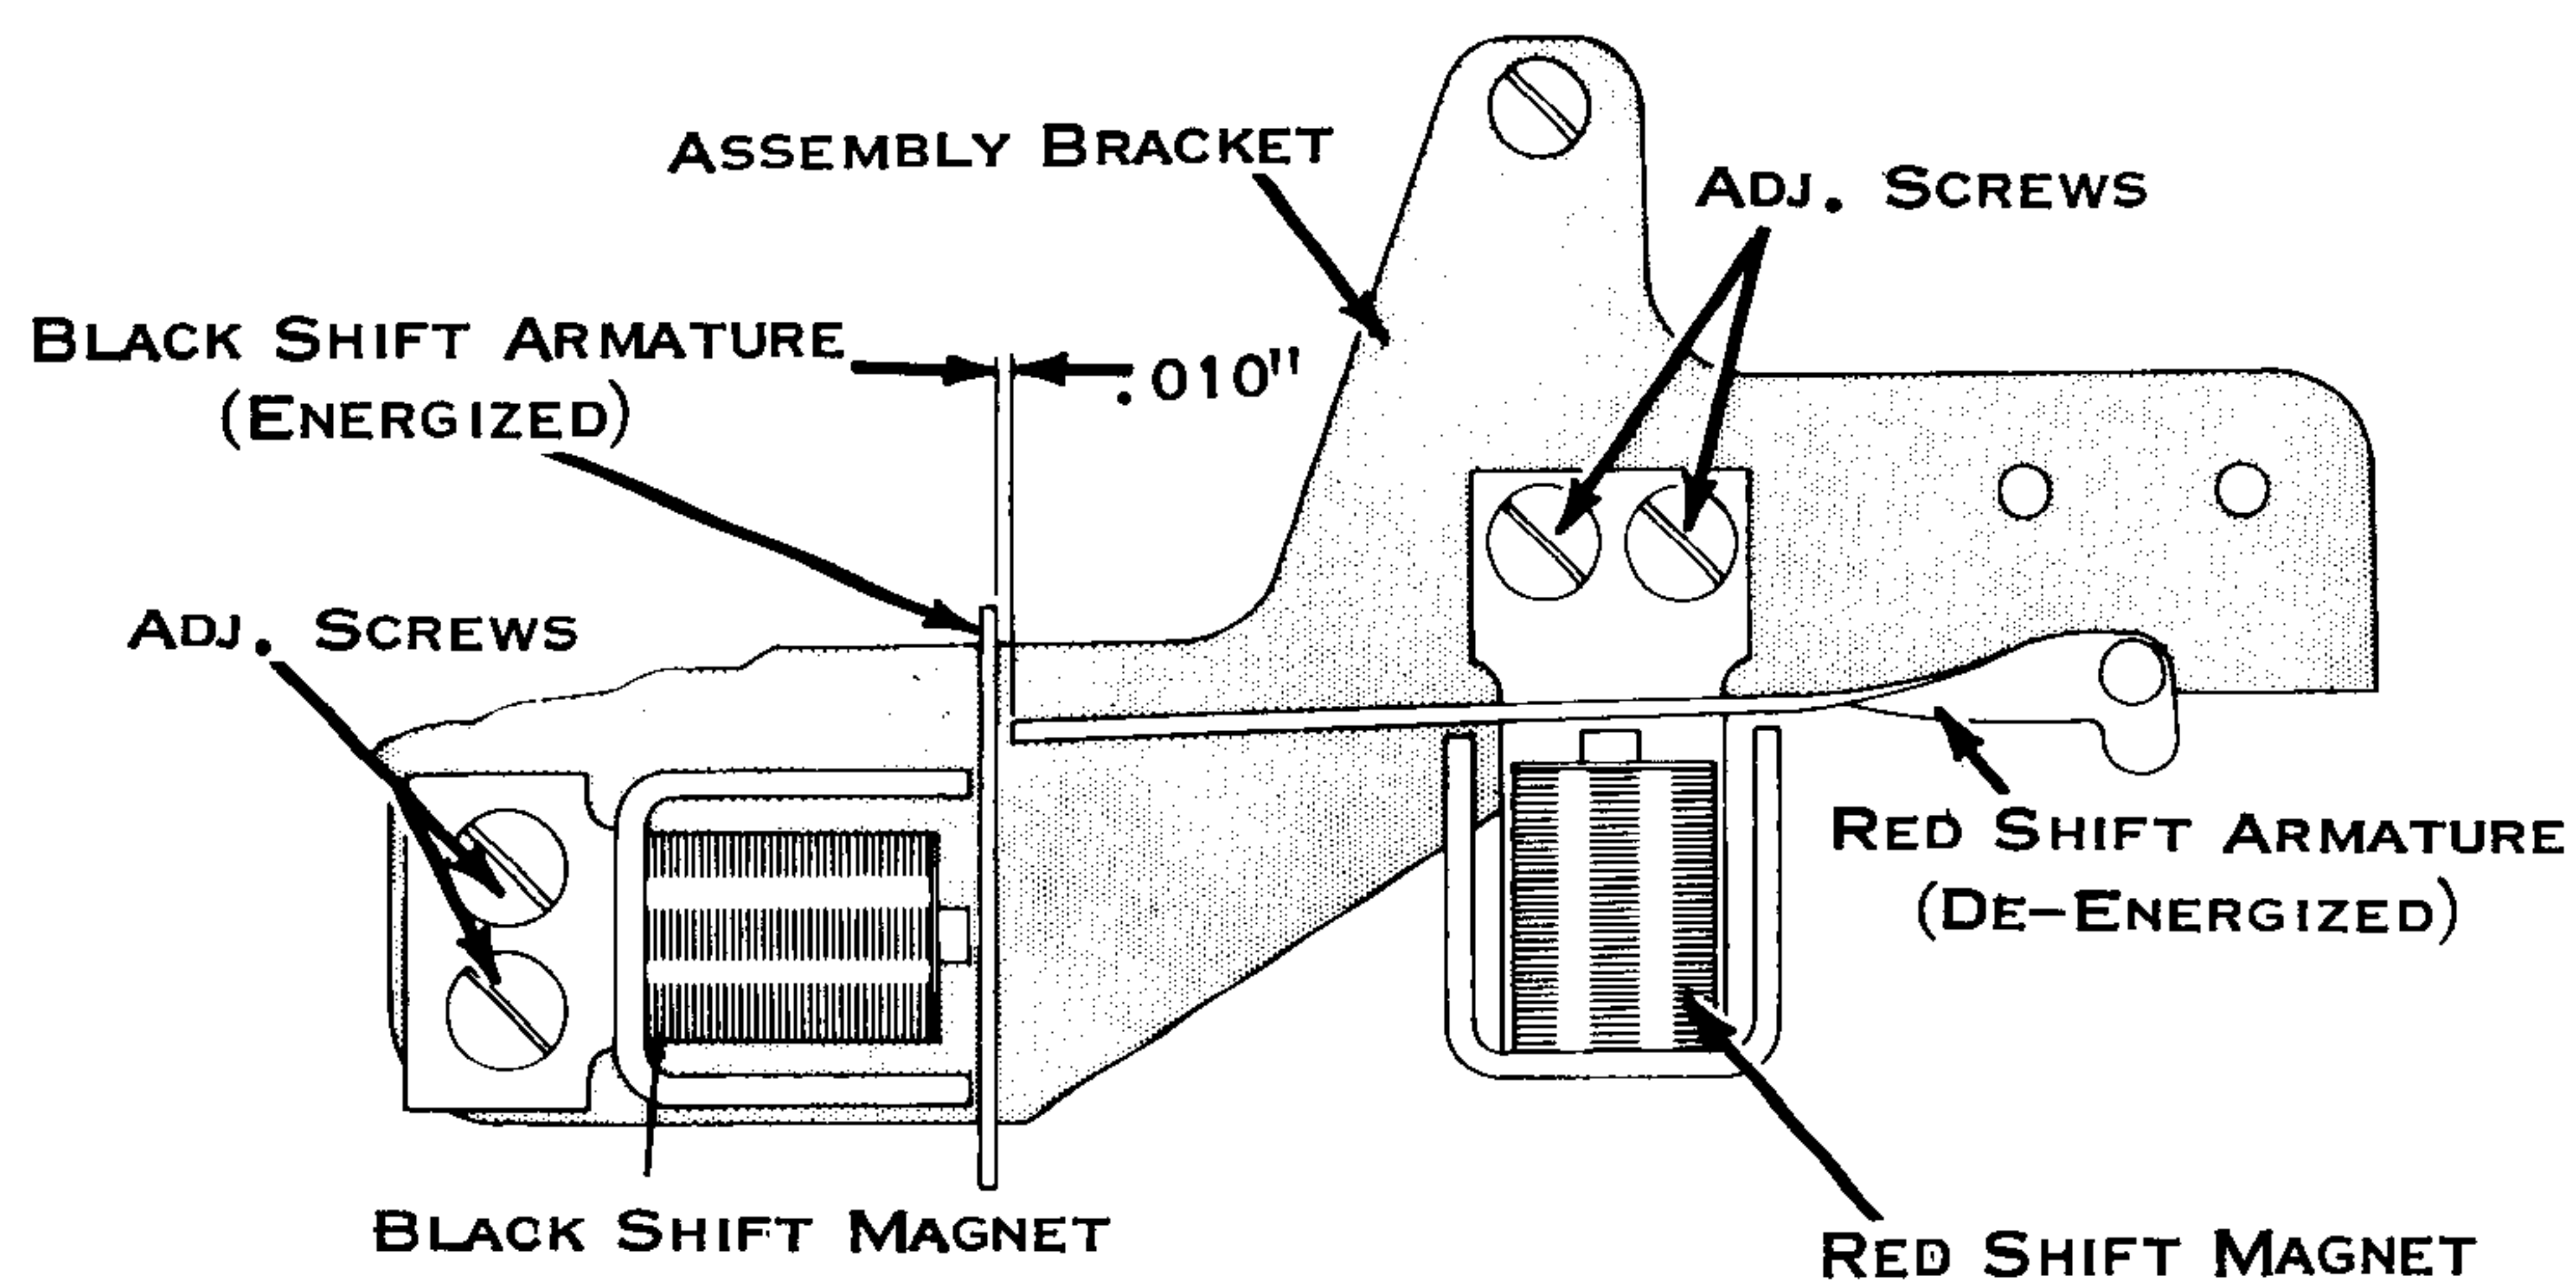

Figure 212. Magnet Positioning
2. Black Shift Magnet - With the black shift magnet armature energized and the red shift magnet armature de-energized, position the black shift magnet for a clearance of .010" between the black and red shift armatures (Fig. 212).